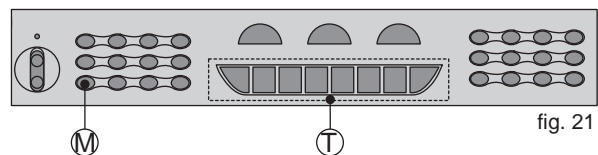

fig. 21
3. Press Percussion (T) to practise percussion while music is playing. Press Stop (M) to quit this function. **See fig. 21**